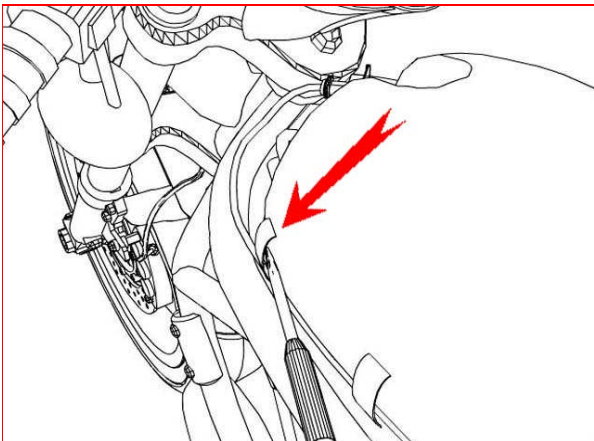

Figure 2
3. Use a screwdriver to disengage the 8 clips retaining the airbox lid. The front clip is not visible and must be reached from left side. ( fig 2)